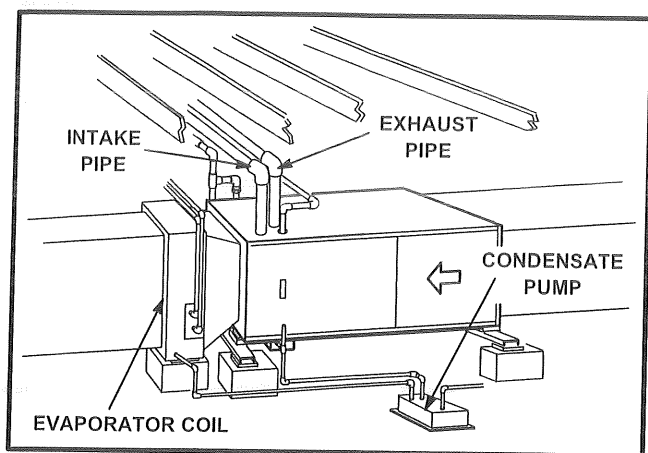

FIGURE 21
- 3 - Install exhaust and intake piping according to information given in following section. Condensate line should be run into condensate pump as shown in figure 21.